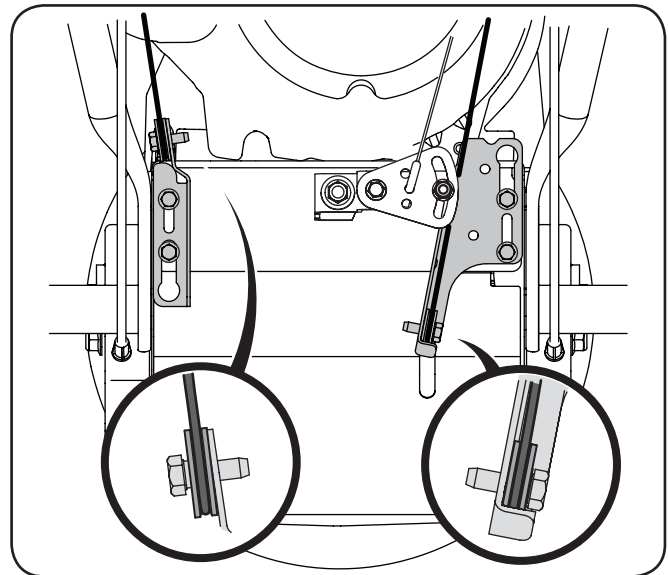

Figure 3-2
2. Observe the lower rear area of the snow thrower to be sure both cables are aligned and seated properly in roller guides. See Figure 3-2.